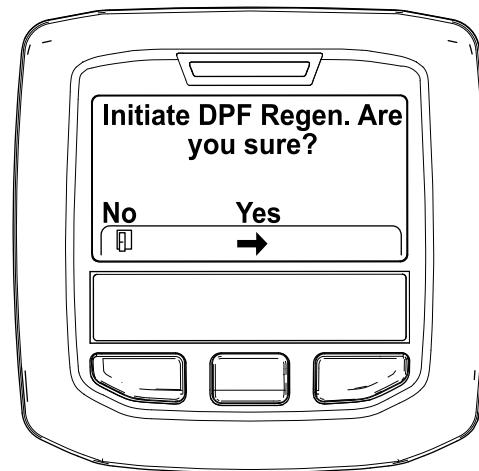

Figure 44
- When the "Initiate DPF Regen. Are you sure?" message displays, press the center button (Figure 44).